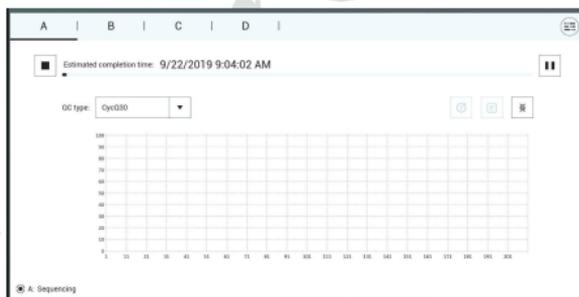

Figure 8-6: Sequencing Starts Interface
- When the screen appears as shown in Figure 8-6, the sequencing is started. In general, a PE100 sequencing run will take around 22 hours.